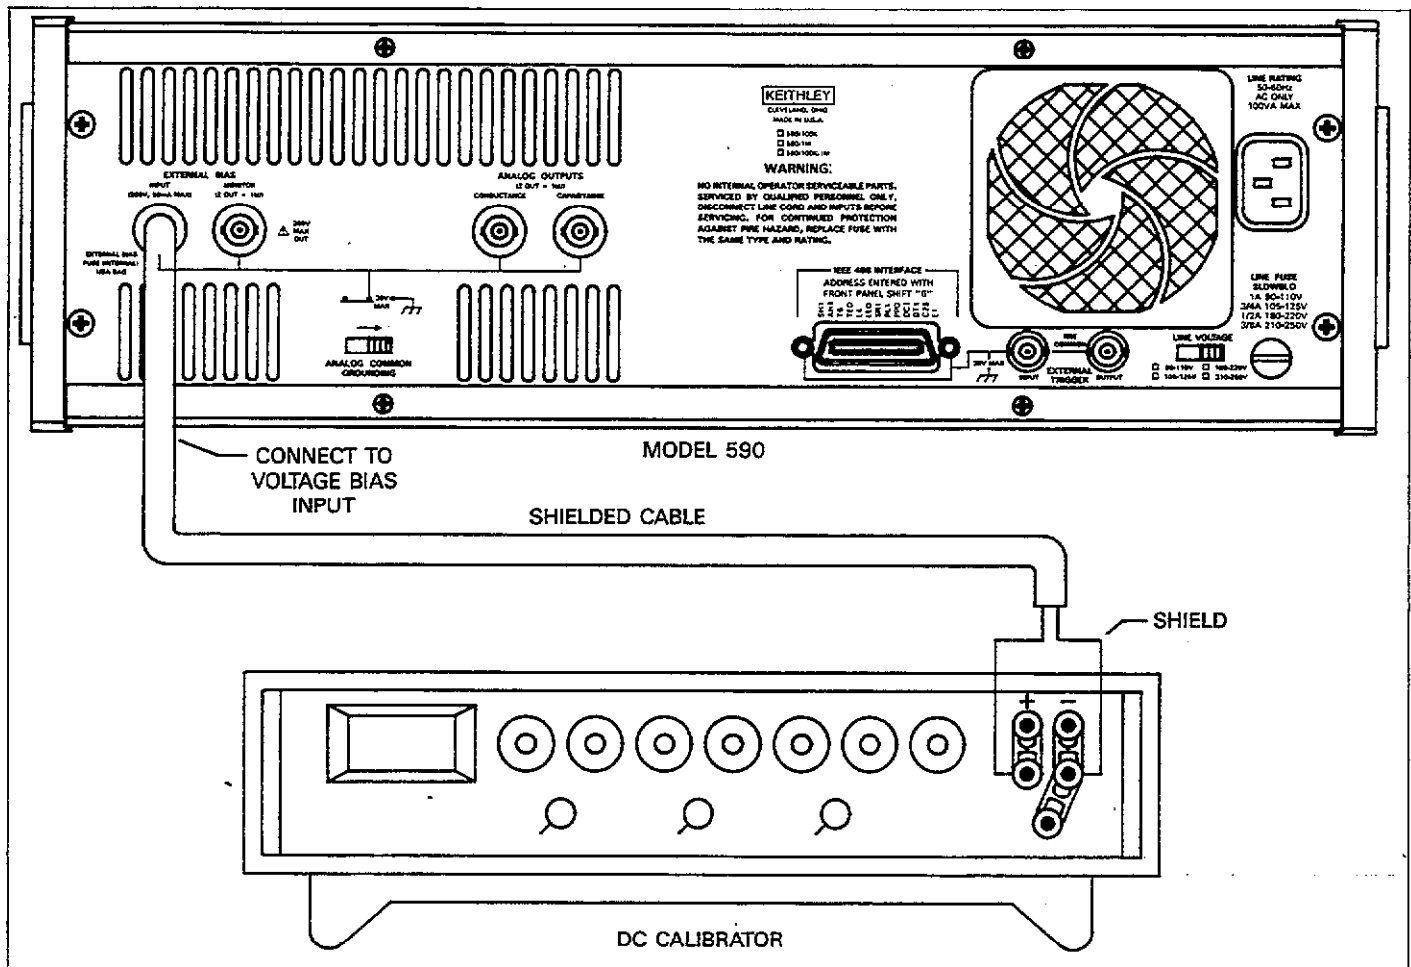

Figure 7-6. Connections for 200V Read-Back Calibration
- 1. Connect the DC voltage calibrator to the rear panel VOLTAGE BIAS INPUT jack, as shown in Figure 7-6.